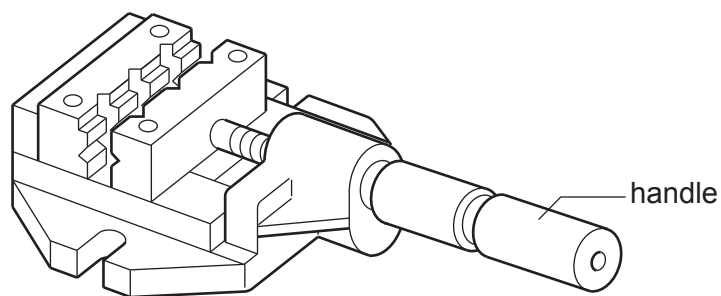

Fig. 5.1
- 5 Fig. 5.1 shows an item of equipment used to hold components when drilling holes.
- (a) Give the correct name for the item of equipment shown in Fig. 5.1.